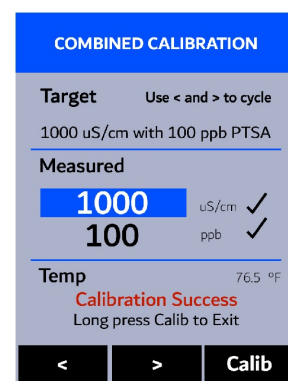

Figure 15.
9. Finally, the message “**Calibration Success**” will appear towards the bottom of the display (Figure 15).